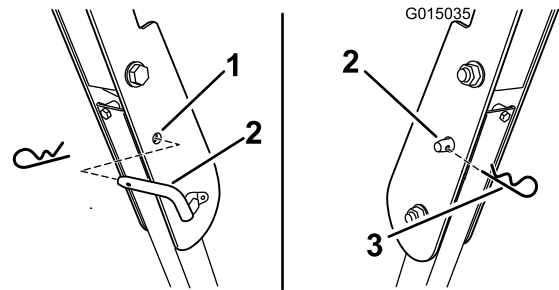

Figure 3
3. Install the locking pins. Secure the pins by installing the hair cotter pin (Figure 3).
4. To lower the roll bar, remove the hair cotter pin and remove the locking pins (Figure 3).